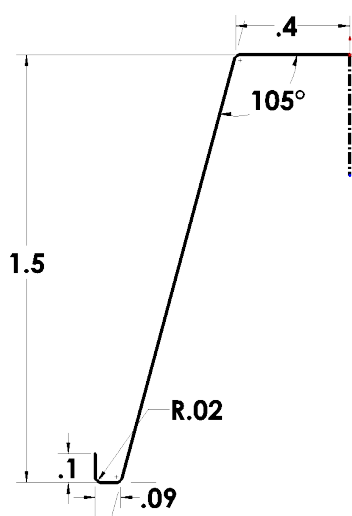

Fig. 7
Step 10. Sketch a vertical centerline from Origin , **Fig. 7**.